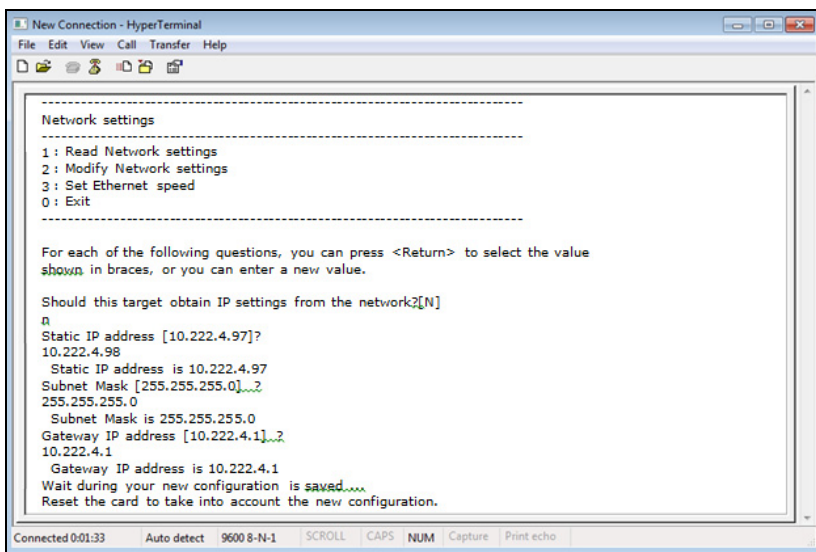

Figure 9. Select No for Manual
3. At the cursor prompt, enter **N** for "no," in order to disable DHCP and manually set an IP address (see Figure 9).
4. Follow the instructions on the screen and enter the fixed IP parameters. Refer to the data you logged in the "Installation Checklist" on page 4. See Figure 9.